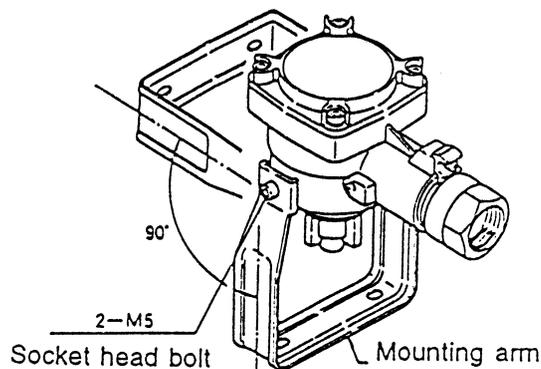

Figure 7-3
- 1) Figure 7-3 shows how the metal mounting arm of the Gas Detector Unit can be adjusted 90 degrees for installation in a suitable locations.